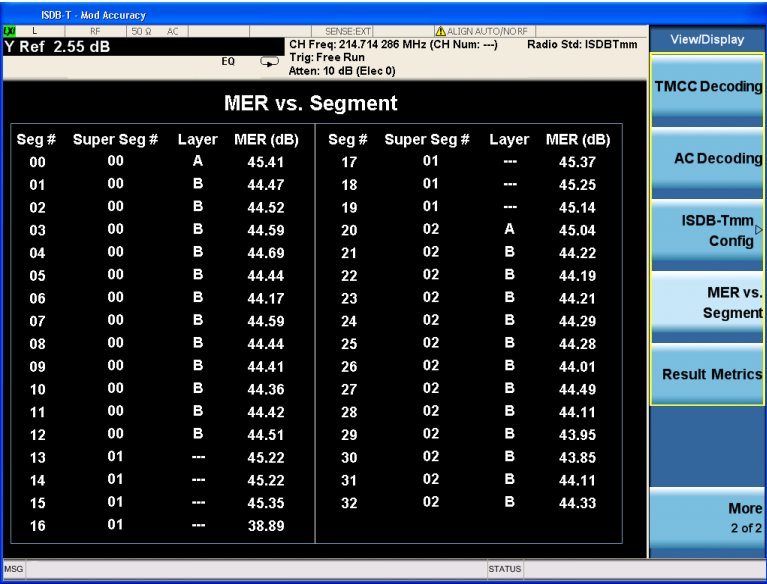

Figure 26. MER vs. Segment view for ISDB-Tmm signals
View the MER vs. Segment results (Figure 26)	[View/Display] {MER vs. Segment}
- **MER vs. segment** view (Figure 26):